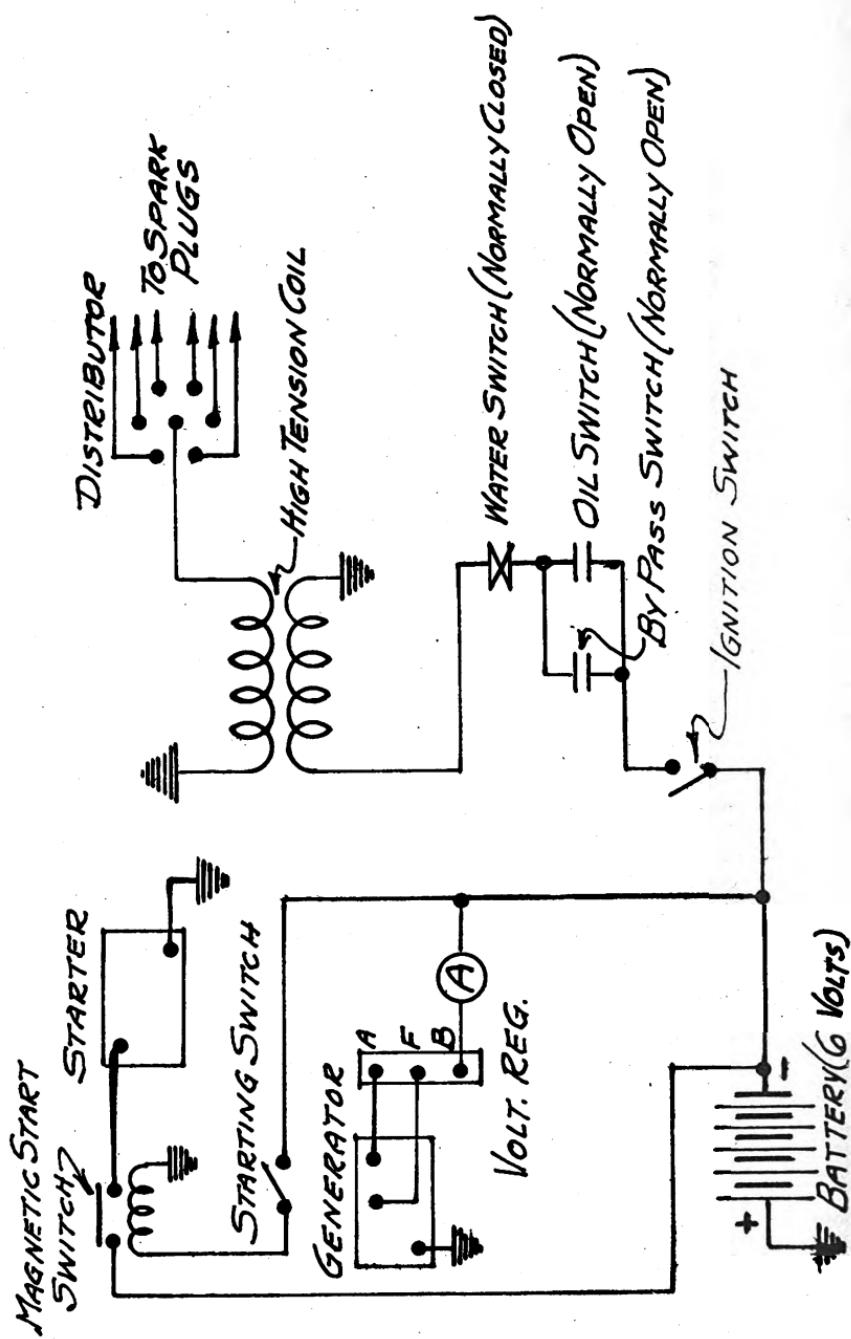

Figure 8. Schematic diagram of the engine electrical circuit.
- b. **Distributor** (fig. 2 [K]). The distributor interrupts the battery current in the primary circuit of the high-voltage coil, and routes the secondary high voltage to the six spark plugs at the proper firing sequence of 1, 5, 3, 6, 2, 4. Refer to figure 8 for details of the wiring system.
The starting motor is similar in construction to the charging generator. Both have a frame, field coils, armature, and brushes. However, the operating principle is reversed. When the storage battery is properly connected to the motor circuit, magnetic fields are set up in the armature and field which cause the armature to revolve with sufficient power to crank the engine. The battery is connected to the starter motor by the solenoid switch (fig. 8) which is controlled by the starting button on the engine control panel. Driving connection with the flywheel of the engine is made by a Bendix drive. This drive is so designed that, as the starting motor quickly accelerates, a counterweighted drive pinion is made to engage with the teeth of the flywheel ring gear. When the engine starts, and the speed of the engine exceeds the speed of the starting motor, the drive pinion is forced out of engagement with the flywheel.
d. Ignition Switch [e]. The ignition switch, when pulled out, closes the primary circuit of the high-tension ignition coil through the breaker points which are located in the distributor (fig. 8).